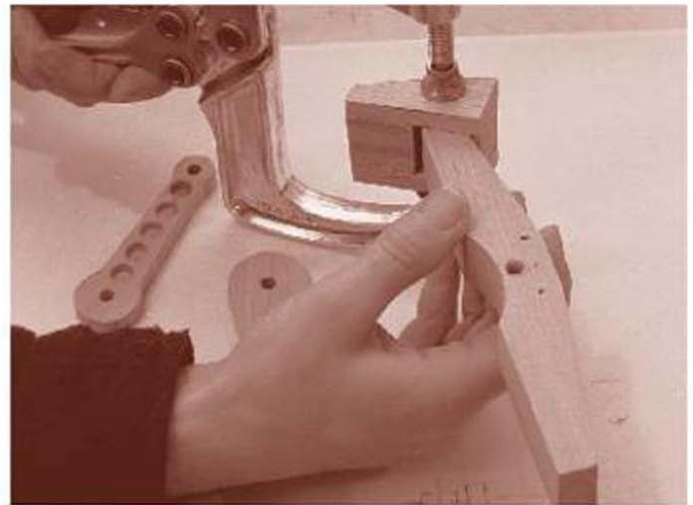

FIGURE 7-13
- 4** Being mindful that the head needs to be a loose-pivoted fit on the end of the beam and the beam and middle layer are both cut from the same $\frac{7}{8}$ " inch wood, it follows that the head end of the beam will need to be reduced in thickness. The best procedure is to glue and clamp the head, try it on the end of the beam for size (Fig 7-13), and then reduce the beam thickness accordingly.